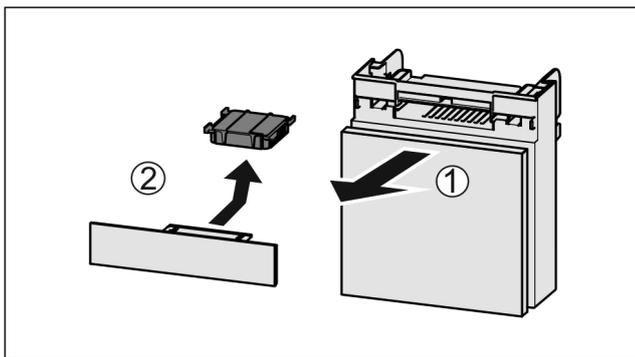

Fig. 137
- ▶ Pull out the compartment Fig. 137 (1).
- ▶ Remove the carbon filter Fig. 137 (2).